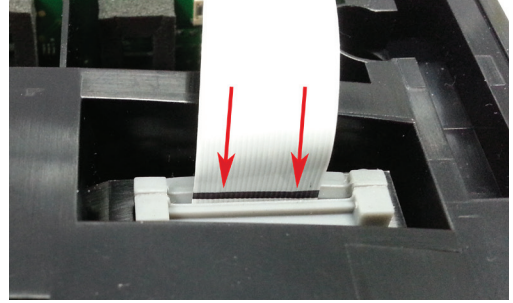

Figure 36. FFC, Mark Line
5.1 Figure 36. Feed the FFC with grommet through the slot in the cabinet. Ensure both sides of the grommet nub is fully seated in the slot. Then, make sure the FFC black line marking is aligned with the grommet prior to closing the enclosure.